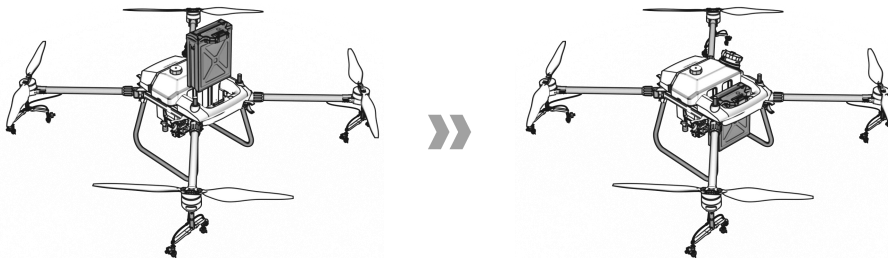

Figure 1-20 Install the battery
Step 2: Connect the battery output port to the body, and the battery is locked in when you hear a “click”. See Figure 1-20.